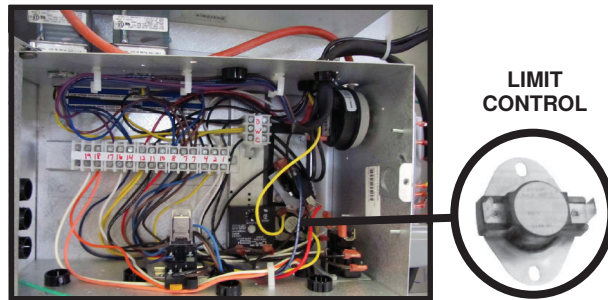

Figure 1. Electrical Box in Control Compartment
2. Replace limit control (see **Figure 1**):